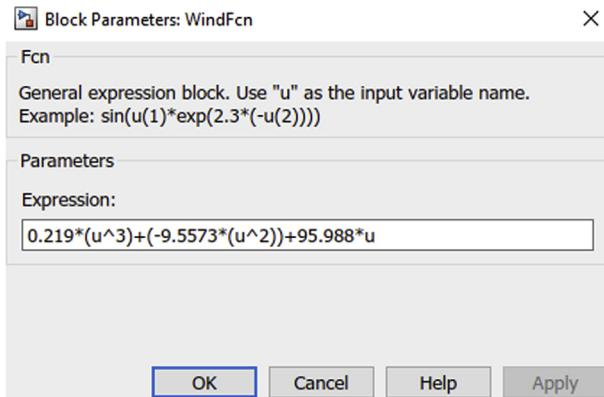

Figure 10.28 Piecewise function for wind to RPM.
- c. Double click on the Wind Fcn block as insert the fourth piecewise function as shown in Fig. 10.28.